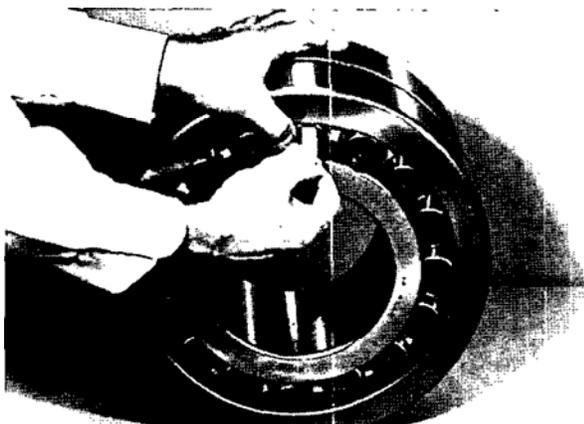

Figure 1 Internal Clearance
1. **Measure the internal clearance of the bearing before mounting.** Place the bearing in a upright position as shown in Figure 1. Seat the inner ring and roller elements by pressing down firmly on the inner ring bore while rotating the inner ring a few times. Position the roller
assemblies so that a roller is at the top-most position on both sides. For bore sizes above 6¹/₂" only, press these top rollers inward ensuring contact with center guide flange. Using a feeler gauge measure the clearance for both sides by inserting as far as possible and sliding over top of roller (Figure 1). Write down the measured clearance and compare with specifications (Table A). **NOTE: Do not rotate bearing when moving feeler between roller and outer ring.**